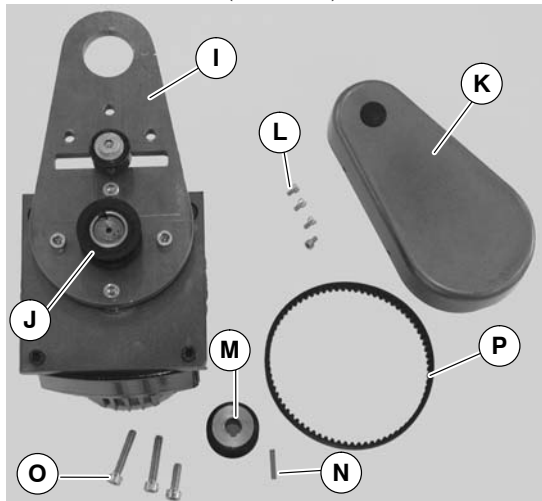

Figure 3
1. Gather components (Figure 3)
NOTE: Type 1 mounting package shown (Figure 3), Type 2 mounting package similar.